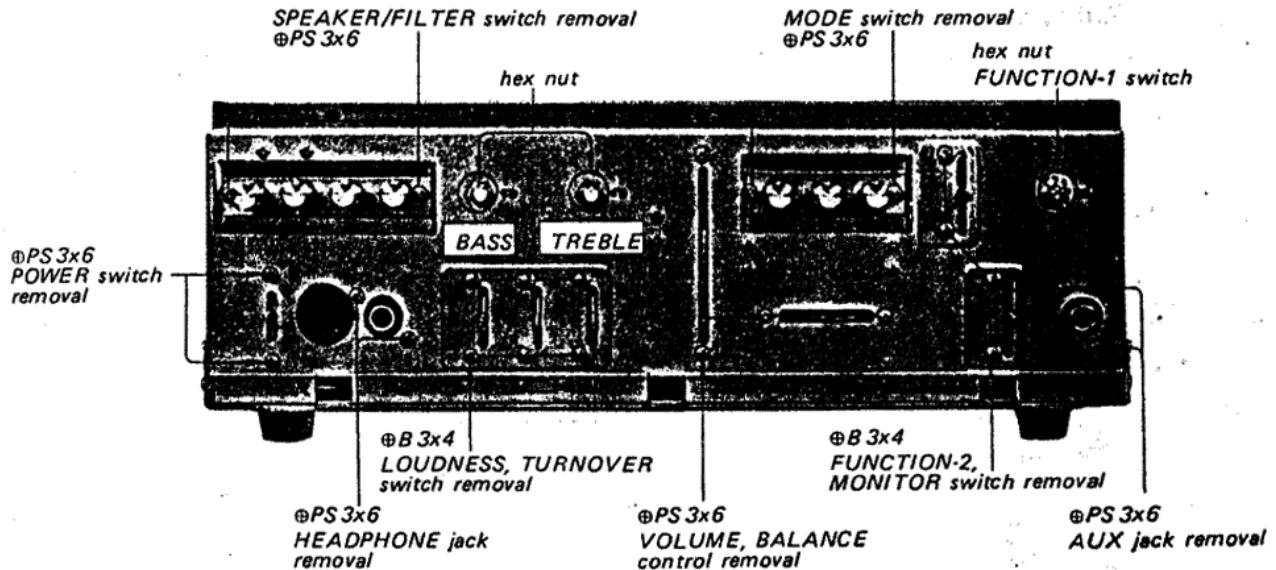

Fig. 2-5. Control and switch replacement
1. Remove the two screws securing switches to the front subchassis as shown in Fig. 2-5.
1. Remove the hex nuts that secure BASS and TREBLE controls to the front subchassis as shown in Fig. 2-5.
1. Remove the hex nut that secures FUNCTION-1 switch to the front subchassis as shown in Fig. 2-5.
2. Remove the two screws (# PS 3x6) securing the combination switch to the front subchassis as shown in Fig. 2-5.
1. Remove the two screws (# PS 3x6) securing the control to the front subchassis as shown in Fig. 2-5.
1. Remove the two screws (# PS 3x6) securing the control or jack escutcheon to the front subchassis as shown in Fig. 2-5.